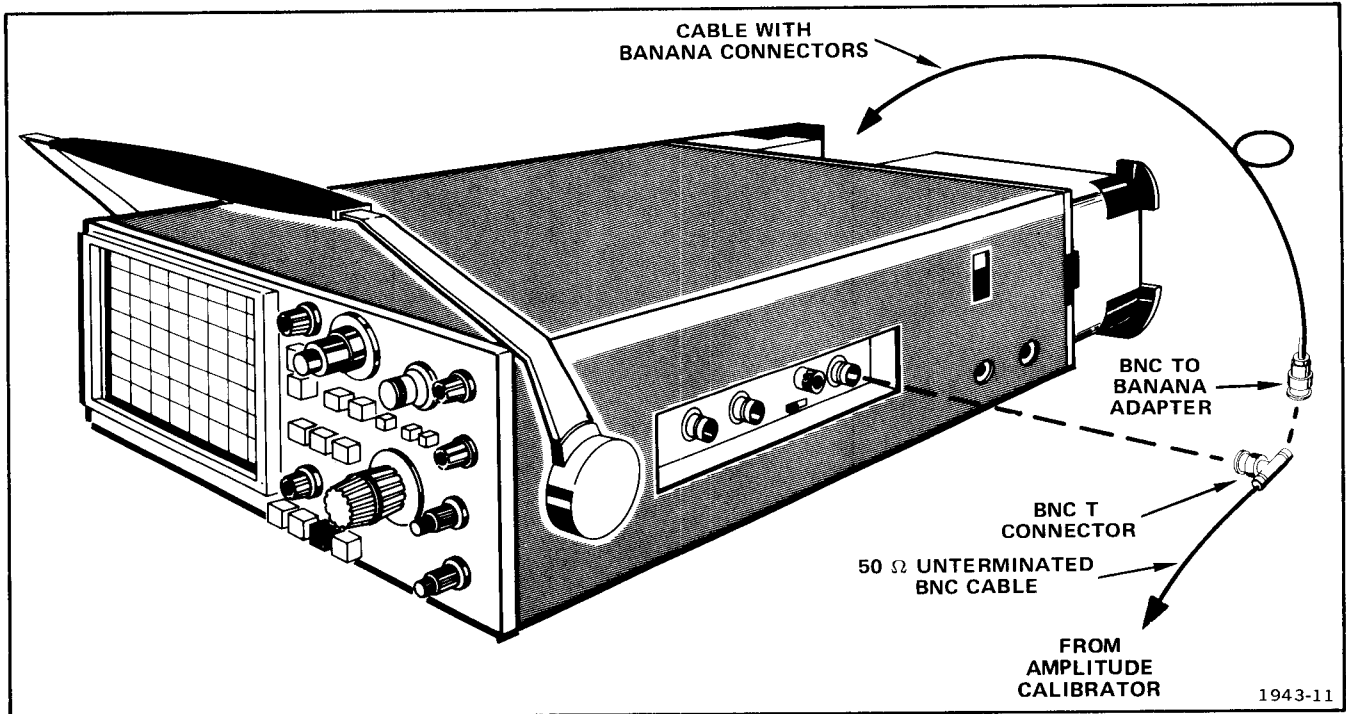

Fig. 5-11. Equipment setup.
a. Connect equipment to EXT TRIG or HORIZ INPUT connector and EXT BLANK connector as shown in Fig. 5-11.